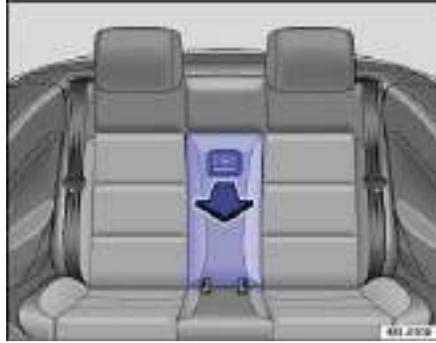

Fig. 99 In the rear backrest: Opening the luggage compartment pass-through cover.
- From the back seat, pull the release lever ⇒ fig. 99 and fold the pass-through cover all the way forward.